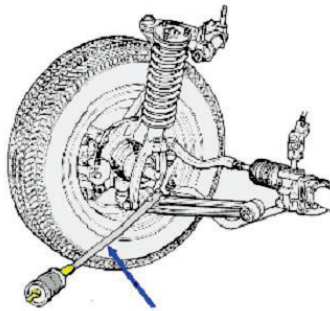

Fig. 1-20
1.5.1.3.3 Stay bar type: In some suspension systems, the front end of the lower swing arm stay bar has an adjustable device. Loosen the locking nut, and adjust the length of the stay bar. In this way, the caster value will be changed, the stay bar prolongs; and the caster become small; otherwise, the caster will become bigger (as is shown in Fig. 1-20);